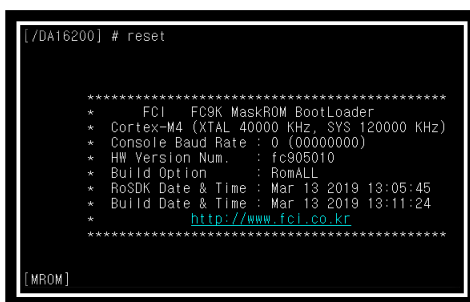

Figure 10: Mask ROM
2. At the [/DA16200] prompt, type `reset` to go to the Mask ROM prompt [MROM]. See Figure 10.